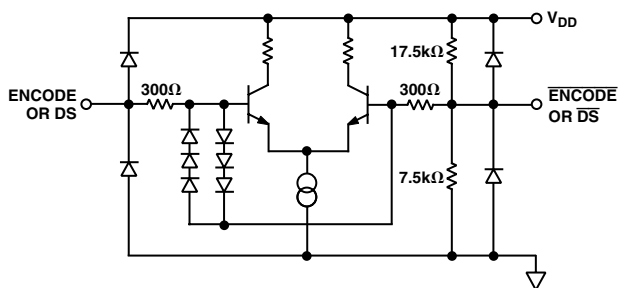

Figure 5. Equivalent ENCODE and Data Select Input Circuit
³t_V and t_{PD} are measured from the threshold crossing of the ENCODE input to valid TTL levels of the digital outputs. The output ac load during test is 5 pF (Refer to equivalent circuits Figures 5 and 6).
ENCODE and Data Select (DS) can be driven differentially or single-ended. For single-ended operation, the complement inputs ($\overline{\text{ENCODE}}$, $\overline{\text{DS}}$) are internally biased to $V_{DD}/3$ (~1.5 V) by a high impedance on-chip resistor divider (Figure 5), but they may be externally driven to establish an alternate threshold if desired. A 0.1 μF decoupling capacitor to ground is sufficient to maintain a threshold appropriate for TTL or CMOS logic.
Note the 6-diode clock input protection circuitry in Figure 5. This limits the differential input voltage to $\sim \pm 2.1$ V. When the diodes turn on, current is limited by the 300 Ω series resistor. Exceeding 2.1 V across the differential inputs will have no impact on the performance of the converter, but be aware of the clock signal distortion that may be produced by the nonlinear impedance at the converter.